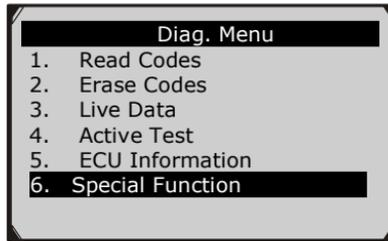

Figure 10-3
- 1) In the **Diagnostic Menu** (Figure 10-3), use the **UP/DOWN** button to select **Special Function** to do the EPB test, which includes **Brake cable replacement** and **Electric parking brake replacement**.
1. Follow the instructions above to display the **Diag. menu** screen.(Figure 10-3)